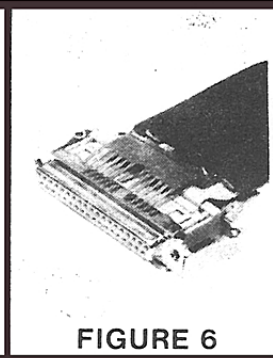

FIGURE 6
6. Insert the other grounding spring in the same manner for the top side of the cable. See Figure 6.